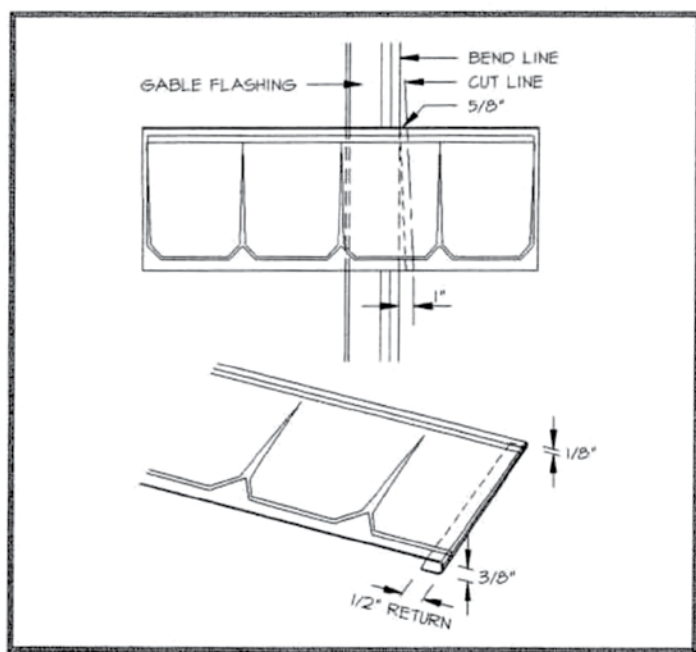
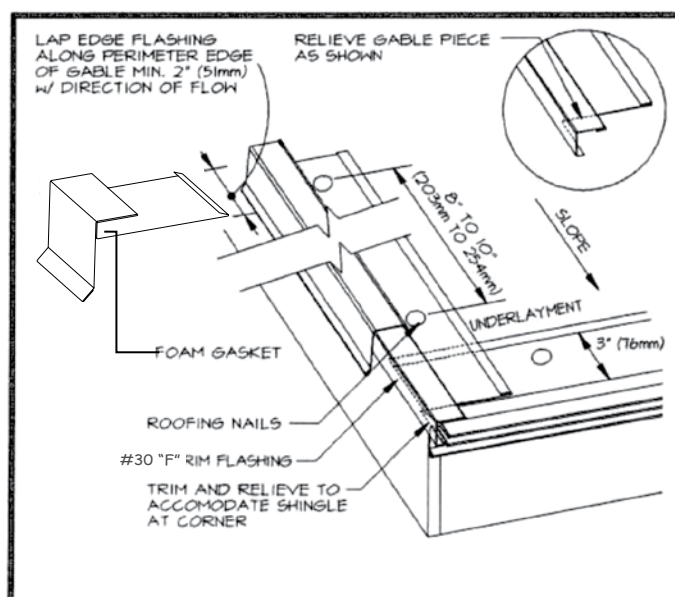

FIGURE 4-1 DETAIL SHOWING HOW TO CUT & FOLD END OF SHINGLE
FIGURE 3-3 FLASHING DETAIL AT EAVES AND GABLE (RAKE) USING CUT AND BUTT METHOD
The first method involves bending or folding of the shingle to produce a layered appearance and is commonly referred to as the "Cut and Fold" method. **See Figure 4-1.** The second method involves cutting of the shingle and inserting it into a "J" flashing that has been formed to both receive and hide the cut edge of the shingle. This commonly referred to as the "Cut and Butt" method. **See Figure 3-3.**
Referring to Figure 4-1, make the bend as follows:
- A. Install #30 Gable F Trim as shown in **Figure 3-3**.
- A. Properly position the shingle in the desired location. Cut and bend shingle as previously detailed on Page 8. See **Figures 4-1 and 4-2**.